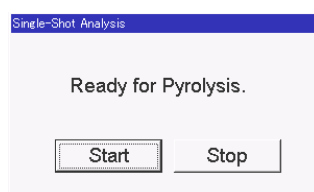

Fig. 4.8 Dialog Box Showing Start of Single-Shot Analysis
1. Check the Furnace check box (B) to turn on Pyrolyzer heater.
7. A dialog box shown in Fig. 4.8 is displayed indicating that GC, Pyrolyzer, Interface, Selective Sampler, and MicroJet Cryo-Trap are all ready. Manually press the sample drop button of the Pyrolyzer to drop the sample cup, then immediately click "START" button of the dialog box or hit "ENTER" of the keyboard.